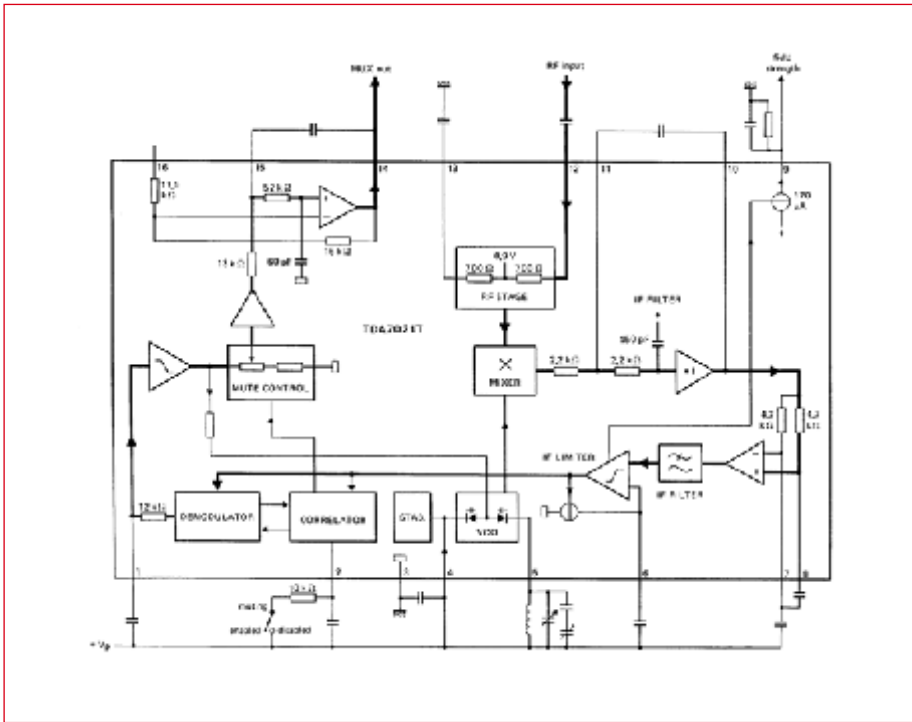

Figure 1. The internal design of the TDA7021T.
**Figure 1** shows a block diagram of the internals of the TDA7021T. This is a (nearly) complete integrated receiver circuit which has been specifically designed for portable radios and the like, requiring only a minimum of external components. As a result the final dimensions of the radio can be kept very small.